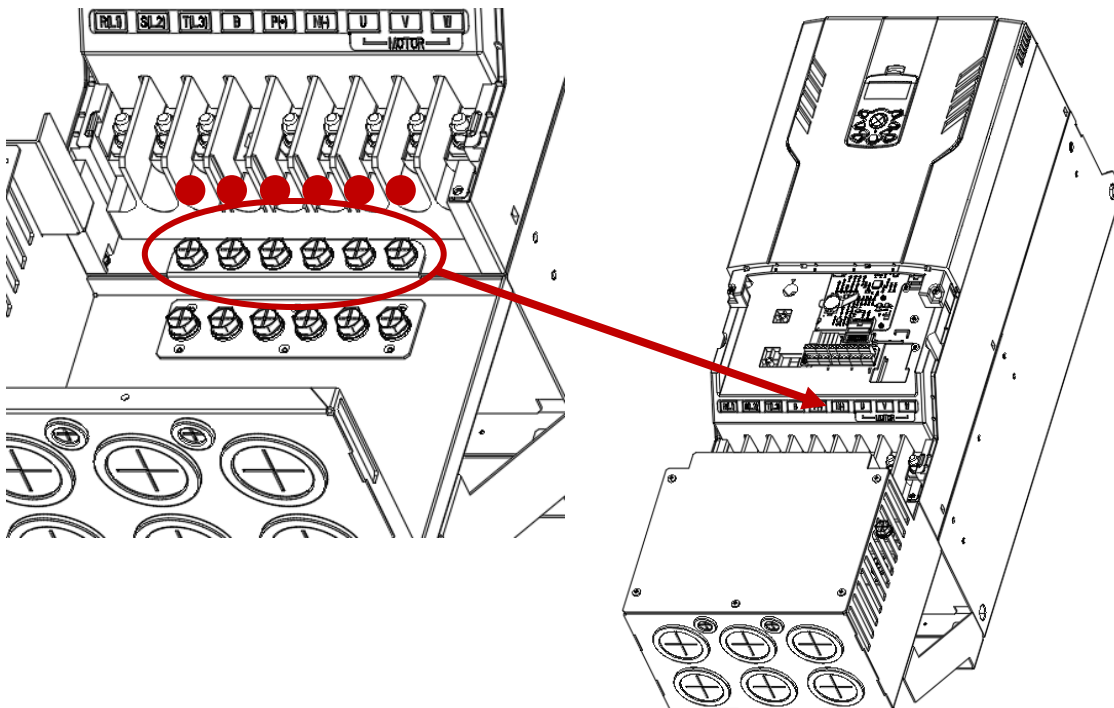

Figure 8. Install Conduit Option
- ② Install screws in locations shown in Figure 8.